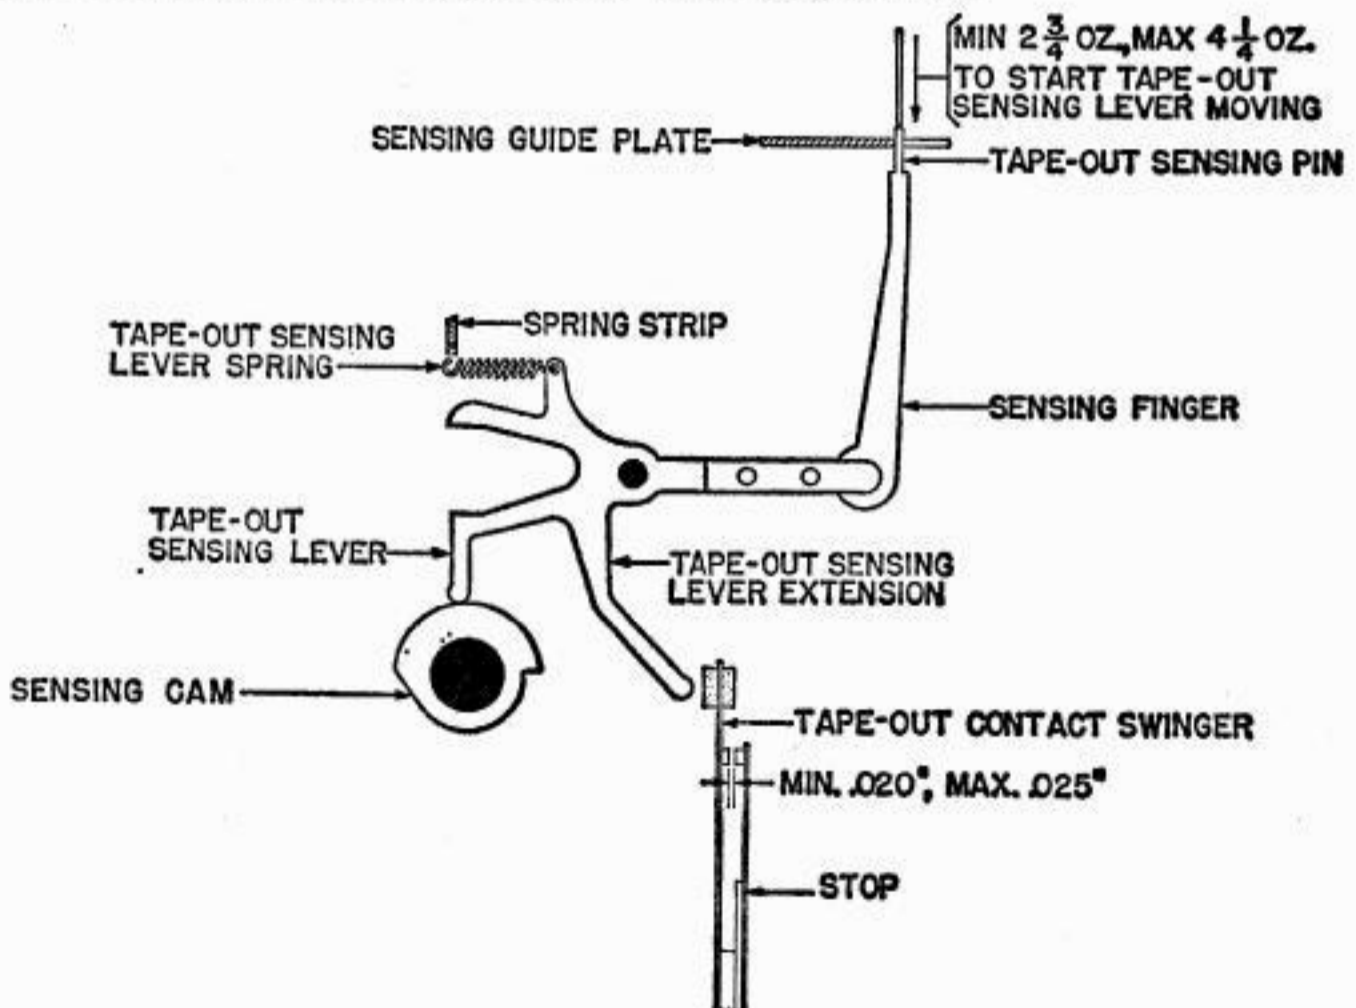

Fig. 68
- (f) 2.135 and Fig. 68 — revised
2.135 Tape-out Sensing-lever Spring: It should require a push as indicated in Fig. 68 to start the tape-out sensing-lever moving when the lever is in its uppermost position, the tape-out-contact swinger held away from the extension, and the pivoted transmitter held in its vertical position.
4. Tape-out Sensing-lever Spring requirement in 2.135 and Fig. 68 is revised to include the change authorized for this apparatus by BSP P98.438.